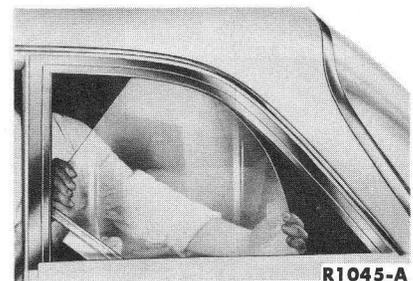

FIG. 11—Quarter Window Glass Removal
6. Lower and tilt the glass as shown in Fig. 11, and remove it.